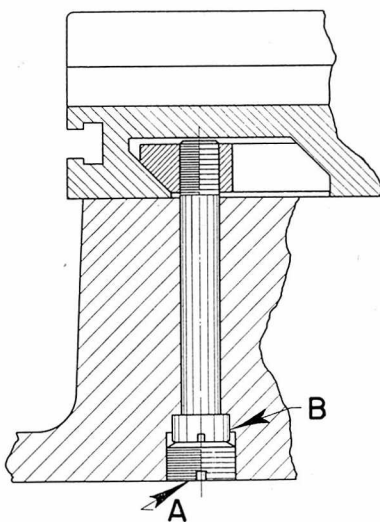

Figure 81
1. Remove the four set screws "A" from the bottom of the housing. (Fig. 81.)